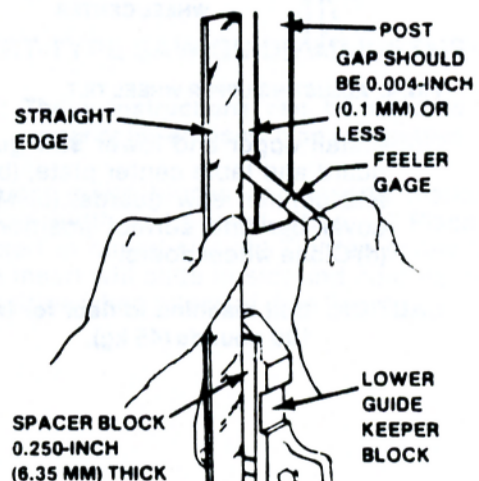

FIG. 6. ALIGN POST TO LOWER SAW GUIDE KEEPER BLOCK.
- (5) Post front should be parallel with lower saw guide keeper block's machined mounting recess. Check by: (a) Placing a spacer block -- ground to exactly 0.250-inch (6.4 mm) thickness -- in keeper block; (b) Placing an accurate straight edge against spacer block and post; (c) Using a feeler gage to check post clearance and parallelism to straight edge; (d) Clearance should not exceed 0.004-inch (0.1 mm). See Fig. 6.